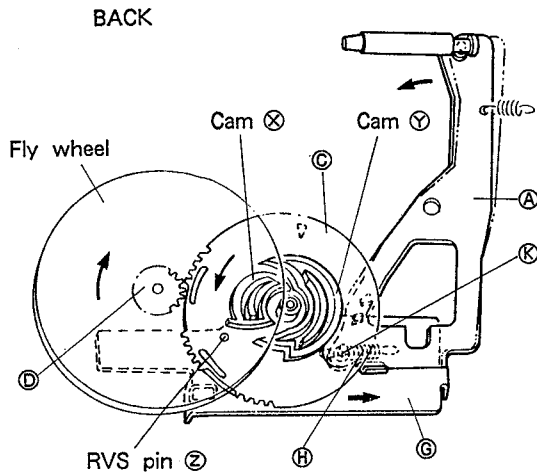

Fig. 8-7
- 1) PLAY solenoid pulls TR arm (P) A.
- 3) RV lever (A) C moves in the direction of the arrow in the Fig. 8-7 due to its linked movement with arm A. RVS pin Z fixed onto RV lever (A) C moves to the external wall of cam X which is on the back side of cam gear C (Fig. 8-7.).